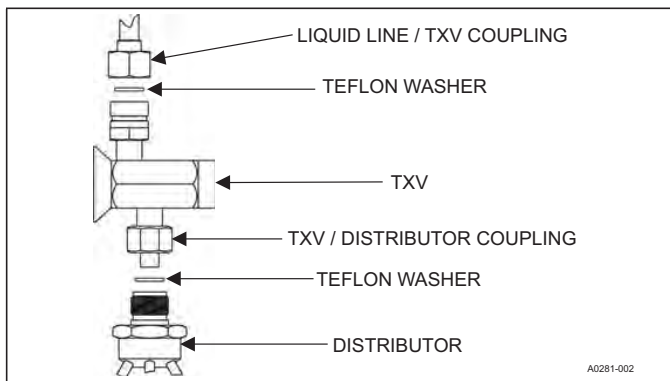

FIGURE 12: TXV Installation
4. Install the thermal expansion valve to the distributor assembly with supplied fittings. Ensure Teflon washer is seated in distributor. Hand tighten and turn an additional 1/4 turn to seal. Do not over-tighten fittings. See Figure 12.